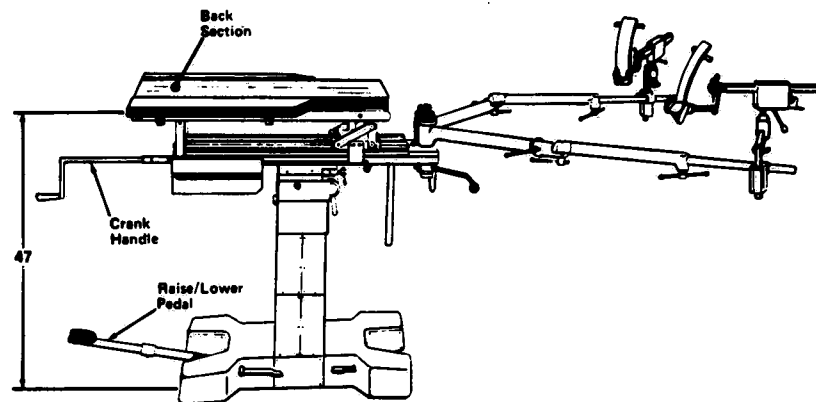
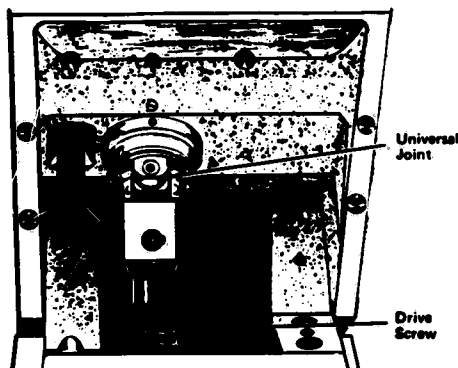

Figure 4-2. ORTHOGRAPHIC TABLE.
Figure 4-4. LATERAL TILT MECHANISM.
2. **Tabletop Adjustment** - Pump and RAISE/LOWER pedal (Figure 4-2) until tabletop is at its maximum height (47" from floor to top of padded back section). Leave table in this position for one-half hour. At the end of this time, measure to see if table has remained at the same height. If table height has decreased, replace the pump (see Section 5).
3. **Back Section Crank Handle.** Turn crank handle (Figure 4-2) to move the back section as far as it will go in one direction; turn handle the other way until back section moves as far as it will go in the opposite direction. The crank should turn easily in each direction. If it turns roughly, check lead screw for defects or lack of lubricant.
4. **Tables With Lateral Tilt.** Turn crank (Figure 4-2) to achieve maximum tilt in one direction; reverse crank turn to obtain maximum tilt in opposite direction. The crank should turn easily in each direction. Repeat this on the opposite side of the table. If crank turns roughly, check universal joint and drive screw (Figure 4-4) for lack of lubricant.